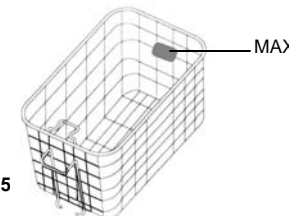

Fig. 5
3. The frying basket has a “MAX” line on it. **Do not** fill the basket with food over this line. (Fig. 5)